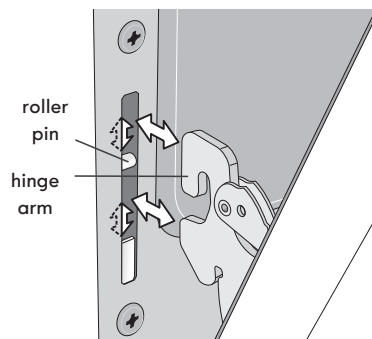

Figure 23: Hinge pin locations
5. With the oven door in the broil stop position, lift the oven door hinge arms over the roller pins located on each side of the oven frame (See Figure 23).
2. Holding the oven door at the same angle as the removal position, seat the hook of the hinge arm over the roller pins located on each side of the oven door frame (See Figure 23). The hook of the hinge arms must be fully seated onto the roller pins.